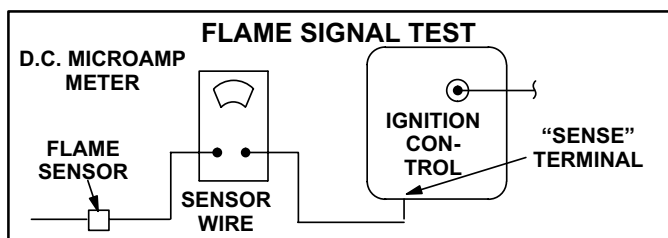

FIGURE 15
- 1 - Place meter in series between ignition control and sensor wire. Connect the positive (+) lead of meter to the ignition control sensor connection and the negative (-) lead of the meter to the sensor wire. See figure 15.